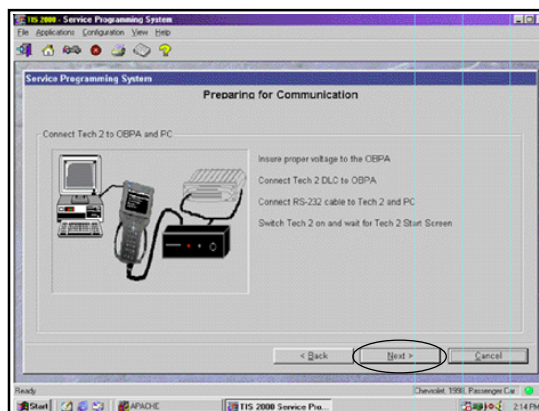
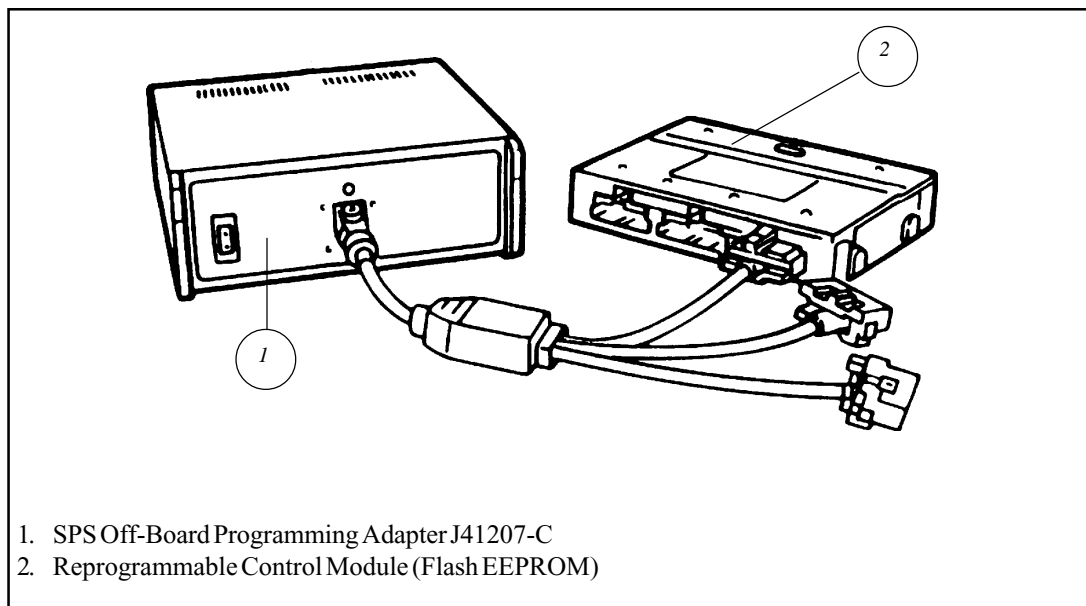

Figure I-44, Preparing for Communication screen
Figure I-54, OBPA Hook-up
4. Follow the on-screen directions for connecting the control module, OBPA, and scan tool (Figure I-44). Be sure to use the correct connector for the control module (refer to the chart on page 22 for a listing of adapters and Figure I-54 for OBPA adapter hook-up). **Select Next.**